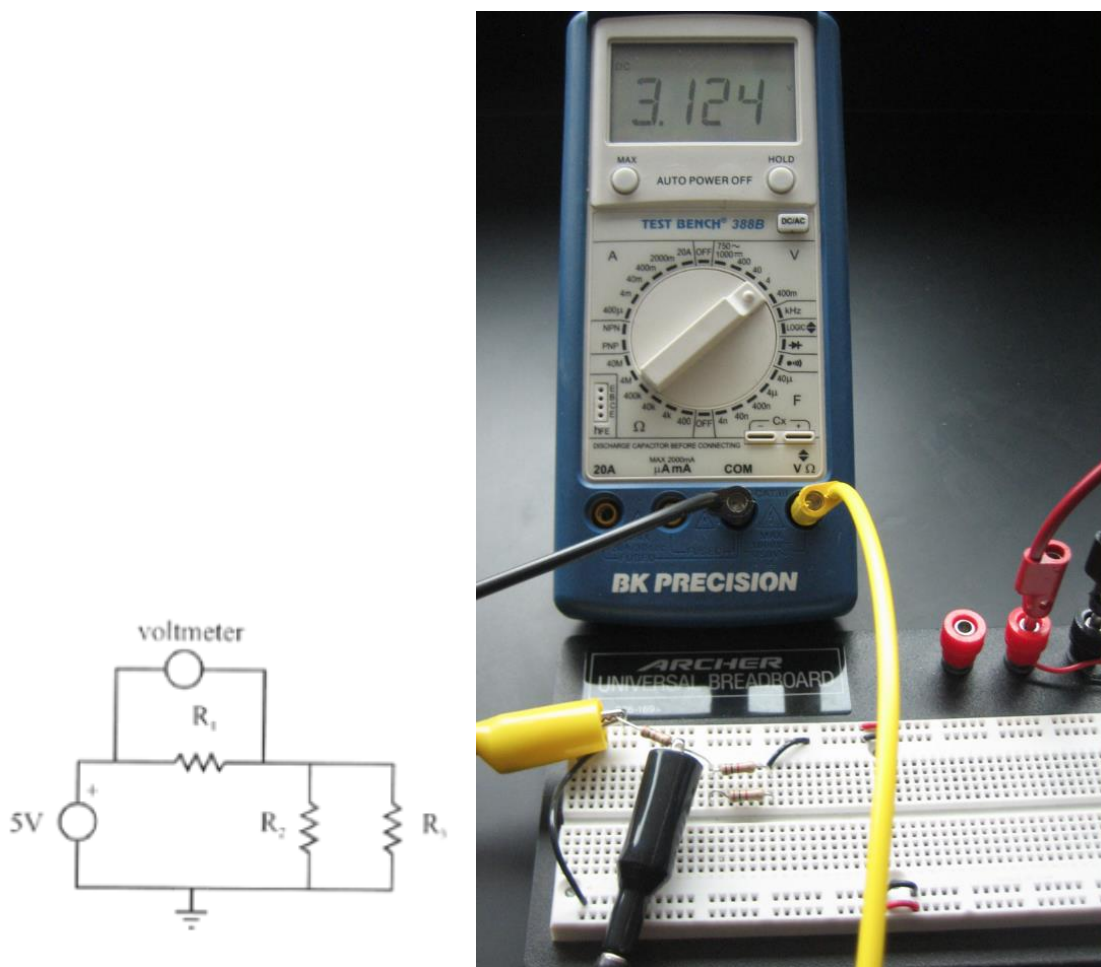

Figure 1.5 Voltage measurement across R_1 .
It is very important that you know how to take voltage and current measurements, especially when prototyping a circuit. As shown in Figure 1.5, when taking a voltage measurement, the leads of the voltmeter are simply placed across the
4. Calculate the values for the voltage drop across R_1 and the current through R_3 assuming that all three resistors have equal value $1k\Omega$. Refer to the text book and Section 2.2 in the next laboratory exercise for background theory. Use the digital multimeter to measure the actual voltage and current values. As shown in Figure 1.5, to measure current with the multimeter, you must put the meter in series with the element of interest. So to measure I_3 , you must pull out the top end of R_3 and attach the meter probes between the exposed end of R_3 and either of the connected ends of R_1 and R_2 (as shown in Figure 1.5). **Be very careful when using the ammeter feature of the multimeter. If you don't place the meter in series with an element, and you put the leads across an element instead, you can burn out the meter's fuse and/or damage the device.**